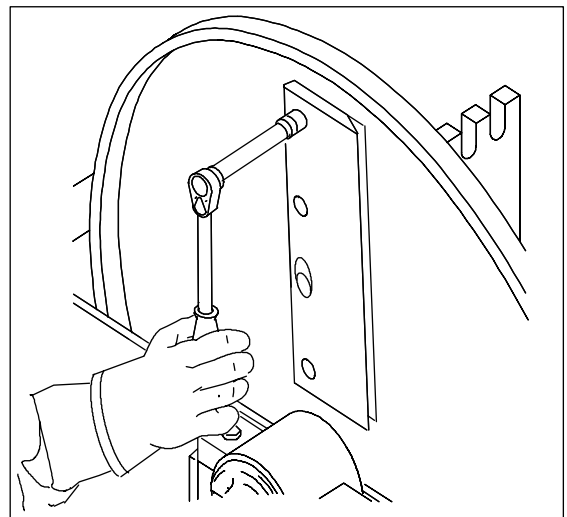

Fig. 21. Removing the knife fastening bolts
2. Remove the knife fastening bolts (M10). Turn the wrench in such a way that your hands would not hit the knife if the wrench should slip. Fig. 21.